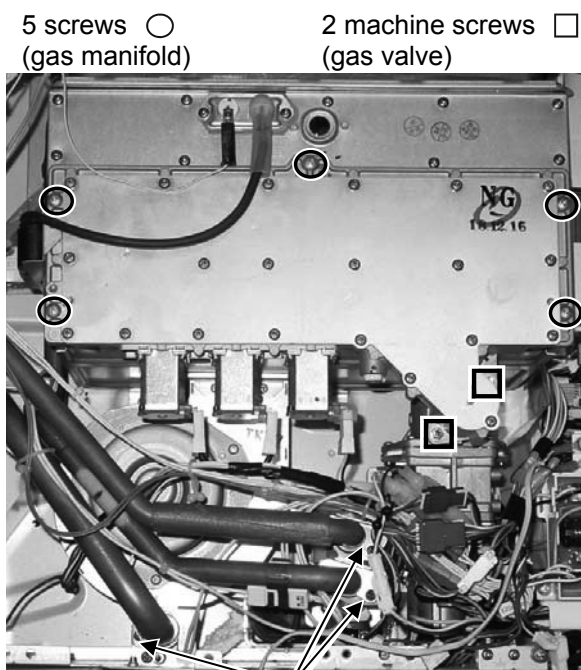

Figure 77
7. Remove 3 screws and brackets securing the water line connections. (Figure 77)
8. Remove the 5 screws that attach the gas manifold to the combustion chamber (part of the heat exchanger assembly). (Figure 77)
9. Remove the 2 screws that attach the gas manifold to the gas valve. These screws are machine screws and must be used at these locations. (Figure 77)
27. Attach the electrical connector to the ignitor on the manifold and attach the gas manifold with 2 machine screws at the gas control assembly. (Figure 77)
28. Attach the gas manifold with 5 screws at heat exchanger. (Figure 77)
33. Attach the brackets to the water line connections. (Figure 77)